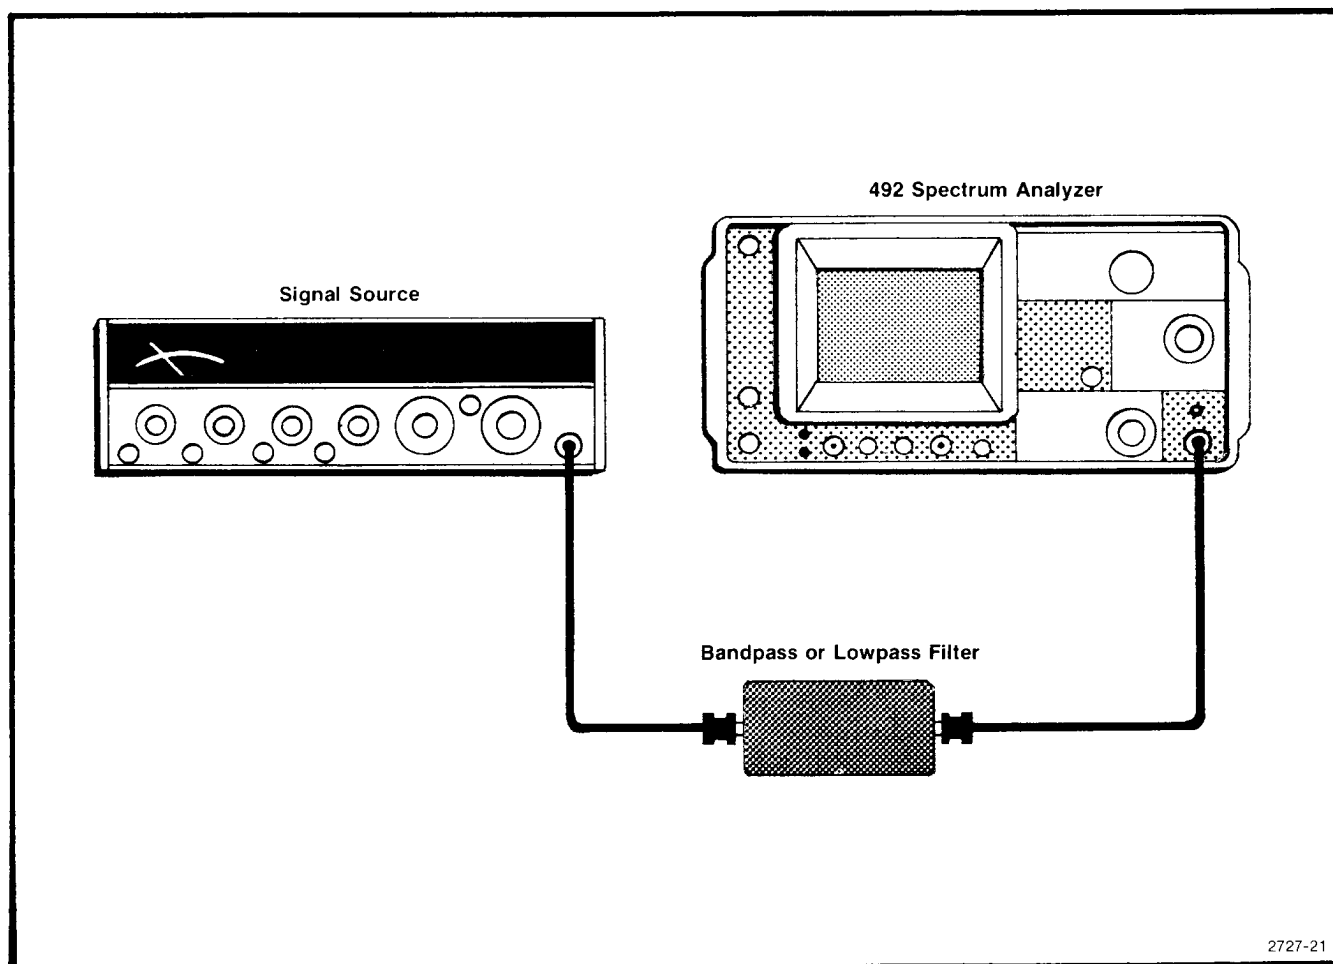

Fig. 3-15. Test equipment setup to check harmonic distortion.
b. Apply the output of the signal generator, through a lowpass or bandpass filter (with a minimum of 40 dB rolloff to attenuate multiples of the generator frequency), to the 492/492P RF INPUT (see Fig. 3-15). Frequency of the signal generator depends on the frequency characteristics of the filter. Ensure that the REF LEVEL is in the MIN DISTORTION mode.